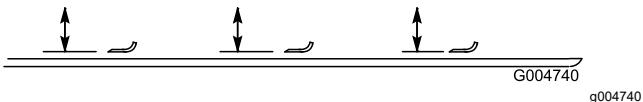

Figure 24
- Rotate the blade until the ends face forward and backward and measure from the inside of the cutting unit to the cutting edge at the front of the blade (Figure 24).